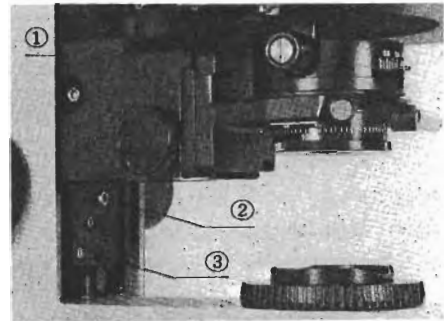

Fig. 17
- 1) Loosen the stage block locking screw ① with Allen wrench provided, and raise the stage block until the stopping screw ② can be seen, then reclamp.
- 2) Replace the stopping screw into the lower threaded hole ③. (Fig. 17)